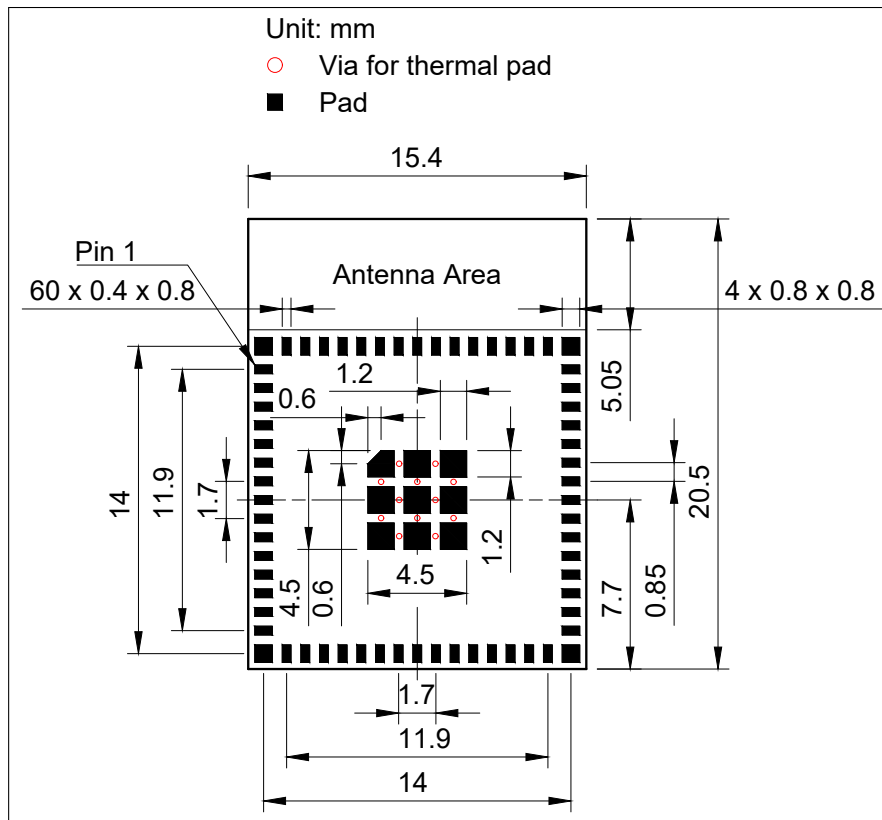

Figure 10: ESP32-S3-MINI-1 Recommended PCB Land Pattern
- Figures for recommended PCB land patterns with all the dimensions needed for PCB design. See Figure 10 *ESP32-S3-MINI-1 Recommended PCB Land Pattern* and Figure 11 *ESP32-S3-MINI-1U Recommended PCB Land Pattern*.
- Source files of recommended PCB land patterns to measure dimensions not covered in Figure 10 and Figure 11. You can view the source files for ESP32-S3-MINI-1 and ESP32-S3-MINI-1U with Autodesk Viewer.